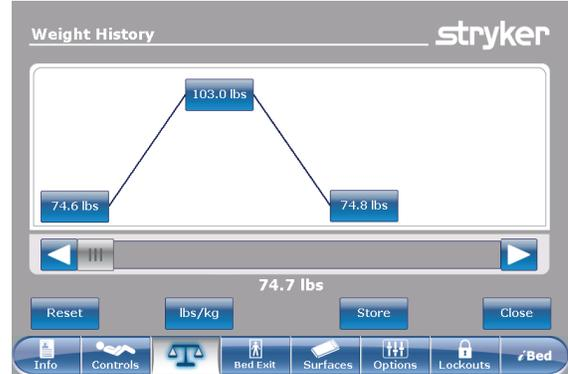

Figure 27: Weight history
To reset the stored weight histories, tap **Reset** (Figure 27 on page 43).
To change the displayed measuring unit, tap **lbs/kg** (Figure 27 on page 43).
To store the current weight reading, tap **Store** (Figure 27 on page 43).
To return to the **Scale** screen, tap **Close** (Figure 27 on page 43).
1. Tap a weight value in the weight history screen (Figure 27 on page 43). Each value displays the time and date of the measurement (Figure 28 on page 43).